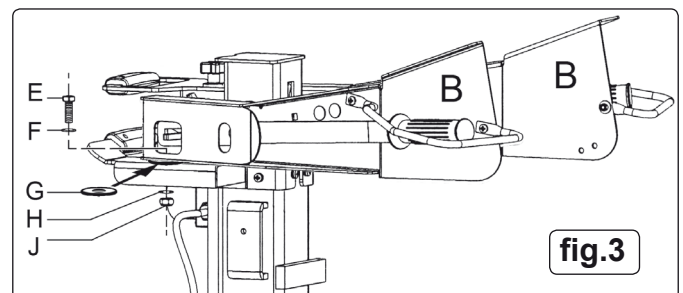

fig.3
- 4.2 **Assembly.** Bolt the Control Lever and Guard Assemblies (B) to the platform on the log splitter as shown above in fig.3 using Bolt (E), Washers (F,G & H) and nut (J).
- 4.2.2 Washer (G) should be sandwiched between each Guard Assembly and the platform as indicated in fig.3 above. Grease the upper face of washer (G) before assembly.